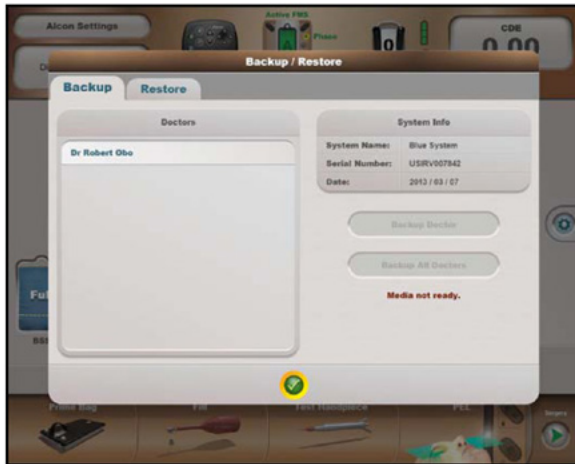

Figure 4-22 Backup/Restore Dialog Screen - Backup Tab
- 5.1.2 Select Backup/Restore from the Custom Menu. The Backup tab is the default as shown in Figure 4-22.
- 5.2.2 Select Backup/Restore from the Custom Menu. The Backup tab is the default as shown in Figure 4-22.